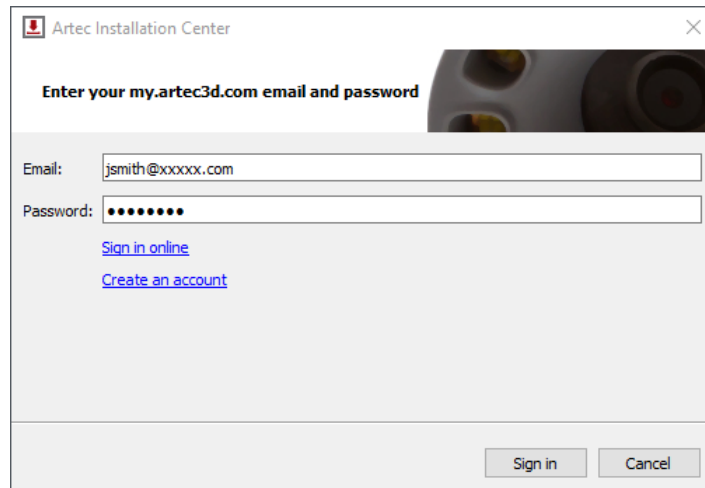

Figure 9: Authentication for Artec Installation Center
2. After downloading, open the folder that contains the executable and run it. Follow the instructions on the installation screens. Once Artec Installation Center is installed, you will see a dialog requesting your email address and password. Use your *my.artec3d* account to log in as Figure 9 shows.
If you have yet to install Artec Installation Center, a login dialog will appear, as Figure 9 shows. If you are not connected to the Internet, consult Offline Activation regarding offline activation of Artec Studio.